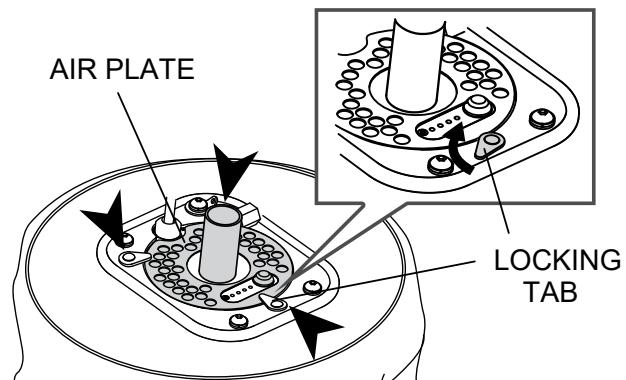

Figure 40. Installing New Filter
4. Install new filter and reinstall the air plate (Figure 40).